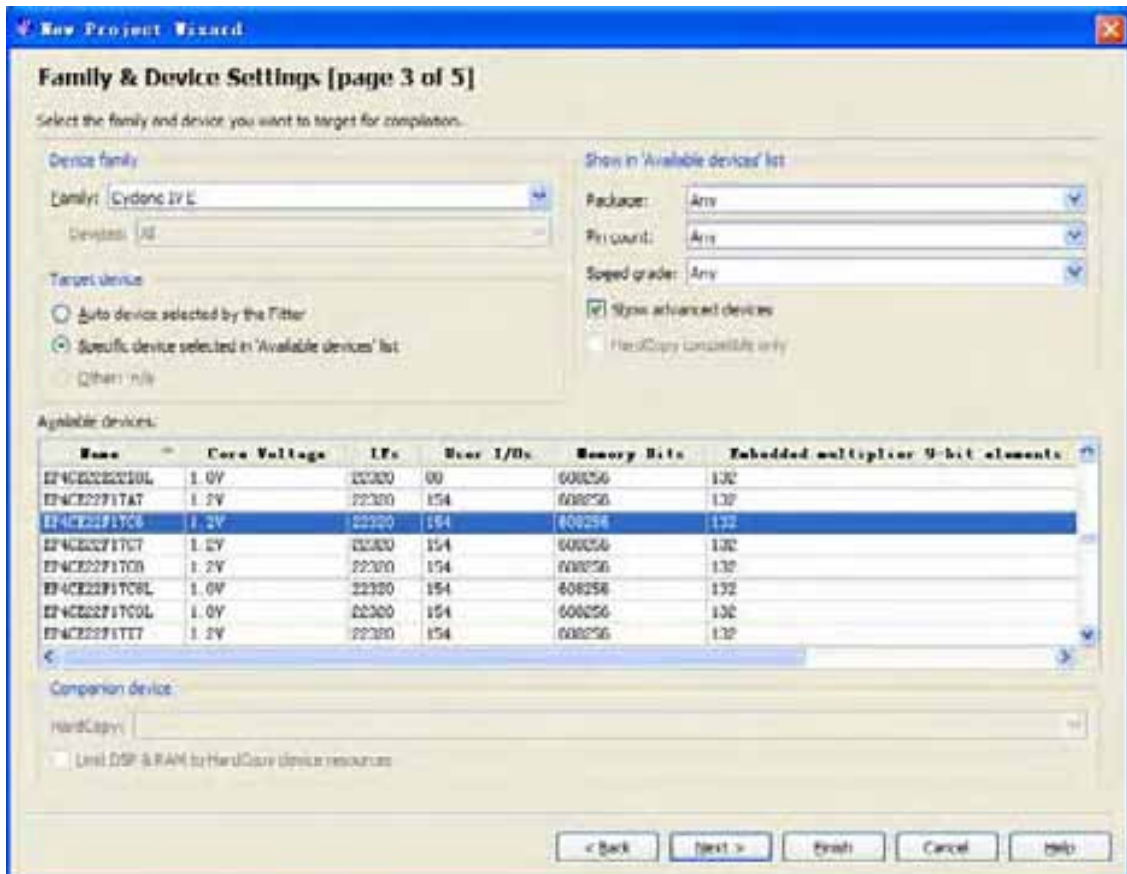

Figure 7-5 New Project Wizard: Family & Device Settings [page 3 of 5]
3. Click **Next** to skip in **Add Files** window. In the **Family & Device Settings** window, we will choose device family and device settings appropriate for the DE0-Nano board. You should choose settings the same, as shown in Figure 7-5. Then click **Next** to get to the window as shown in Figure 7-6.